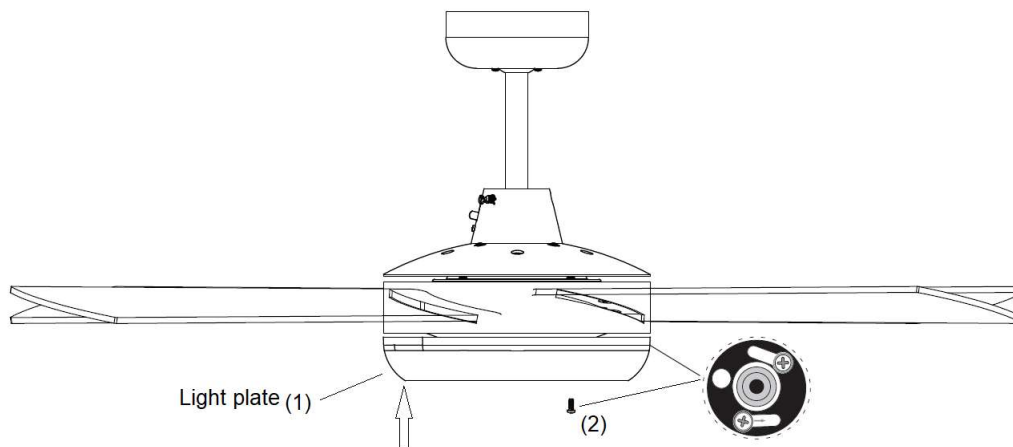

Fig. 6
3. Install the light plate (1) back to the fan assembly. Align the two slot screws with the keyhole slots, then turn clockwise to lock. Secure the light plate by tightening the screw (2). (Fig.6)